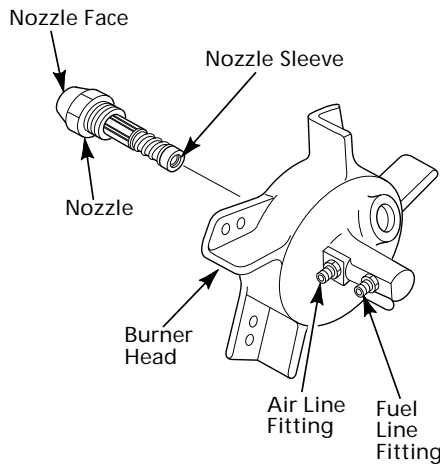

Figure 28 - Removing Nozzle, Models 3E218D and 3E219C
8. Carefully remove nozzle from burner head using 5/8" socket wrench (see Figure 28).